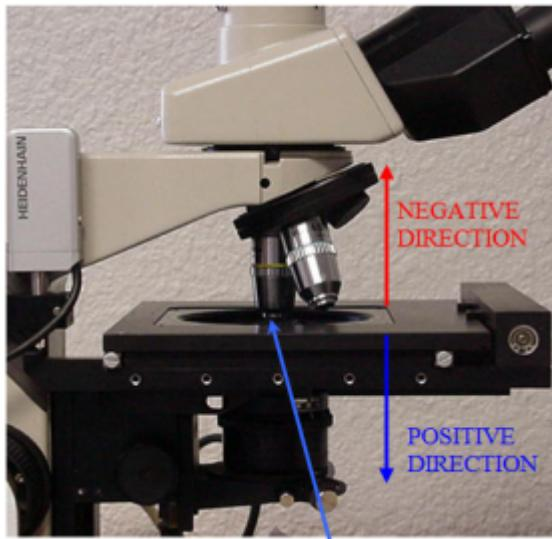

Fig 3: Set objective farther than 200 microns from the sample, then set the focus drive's position to ZERO.
1. Focus the sample manually and then press the ZERO button on the controller. When correctly configured, the controller will never auto-focus to a position greater than 200 μm in the negative direction from the 0000 positioned. (This safety feature may be disabled by the AFLIM (or AL) command.) By zeroing the controller at a typical focus location, you should have a reasonable range for the auto-focus to operate yet still protect an objective from crashing into the sample (Fig 3). You can also use the HERE Z=0 command to zero the Z-axis position with software, if Z is the focus axis.